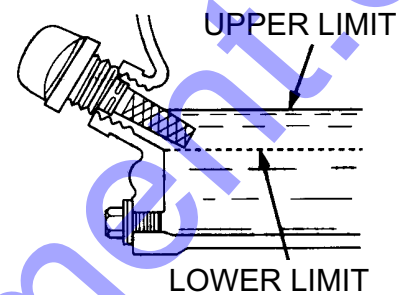

Figure 7. Engine Oil Dipstick (Oil Level)
4. If the oil level is low (See Figure 7), fill to the edge of the oil filler hole with the recommended oil type (Table 7). Maximum oil capacity is 1.16 quarts (1.1 liters).
1. It is advantageous to place the pump as close as possible to the water source (Figure 7) on a solid, level operating surface. The most critical factor for successful pump operations is not to exceed 25' Total Suction Lift (at sea level).